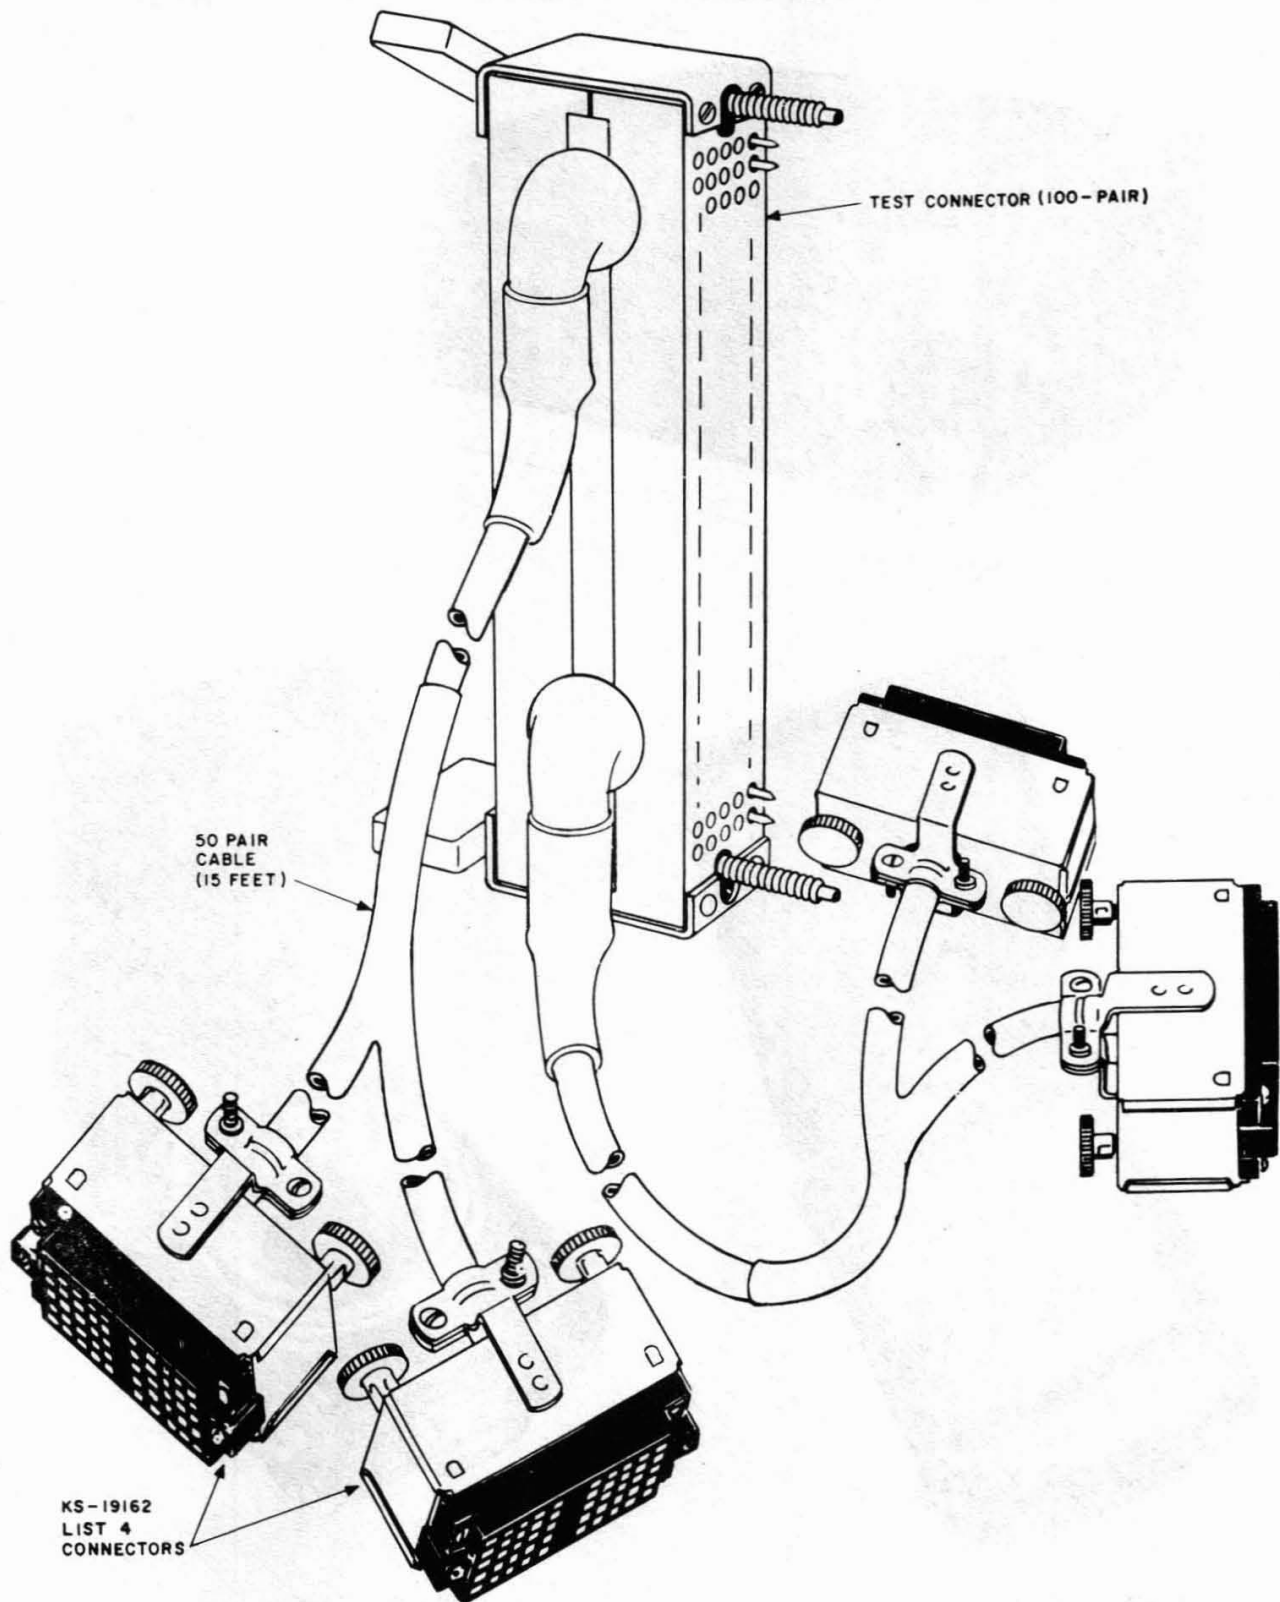
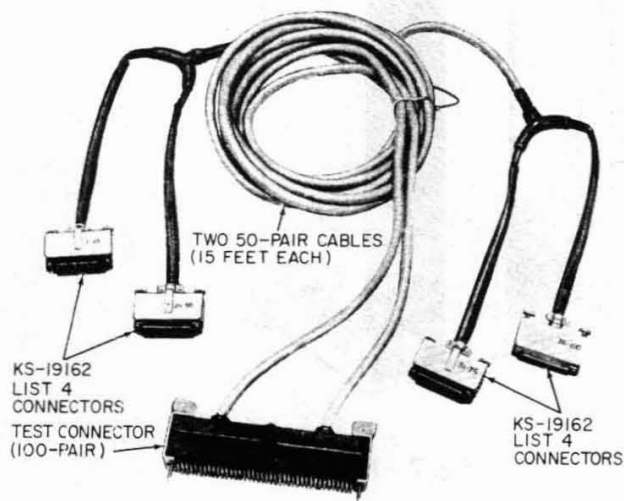
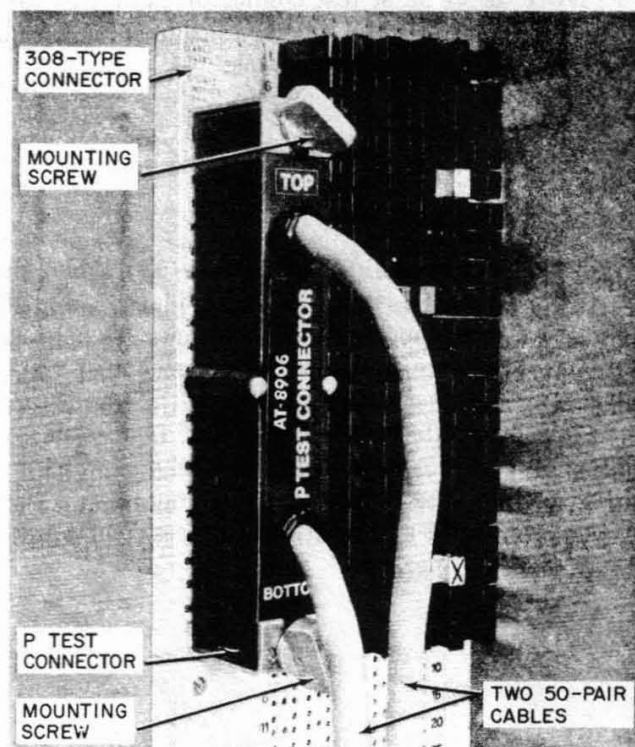

Fig. 5—M Test Connector
Fig. 8—P Test Connector
Fig. 9—P Test Connector Mounted
2.04 The *M test connector (AT-8823)*, shown in Fig. 5, consists of a three-piece, plastic-molded body in which 200 spring-loaded contacts are housed and connected internally to two 50-pair sheathed test cords. Each 15-foot long test cord divides into two 25-pair branches which terminate on KS-19162 List 4 connectors for attachment to pair identification equipment. The KS-connectors are factory marked (1-25, 26-50, 51-75, 76-100) to indicate the respective cable pair count. The M test connector mounts on 305-type connectors.
2.06 The *P test connector (AT-8906)*, shown in Fig. 8, is similar to the M test connector except that the two 50-pair cables enter into the back of the connector and the internal wiring is different. (On the M test connector, the cables enter into the side of the connector shown in Fig. 5.) The P test connector (Fig. 9) is attached in a manner similar to the M test connector. However, the P test connector cannot be interchanged with the M test connector because of internal wiring differences. The P test connector mounts on the 308 (types 1 and 2) connectors.